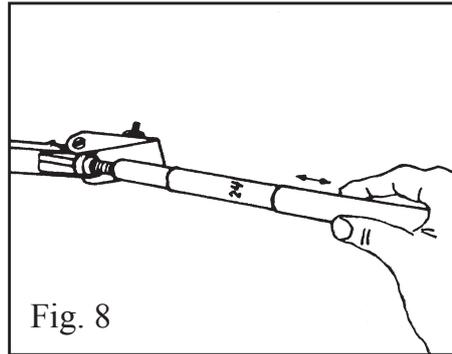

Fig. 8
Draw back the thermometer cover (13) **without turning it and without removing it completely from the thermometer.** See Fig.8.